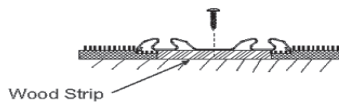

FIGURE 5
If carpeted, wood strip spacers [3/16" - 3/8"(5-10) thick] are recommended to raise floor track (Figure 5). For installation on top of carpet, see "Existing Dwelling" below.
**Existing Dwelling:** For installation in previously carpeted area, it is recommended to cut the carpet and shim the track with wood strips (Figure 5).